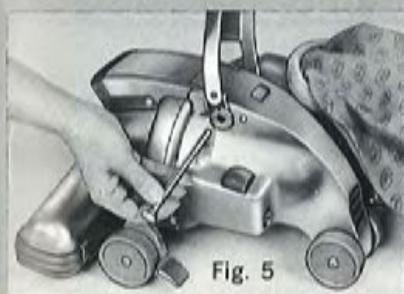

Fig. 5
STEP 2: Insert the fork of the Long Handle into the slide at top of Motor Unit (see figure 5).